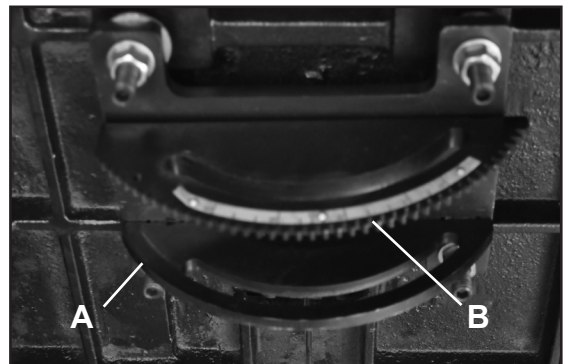
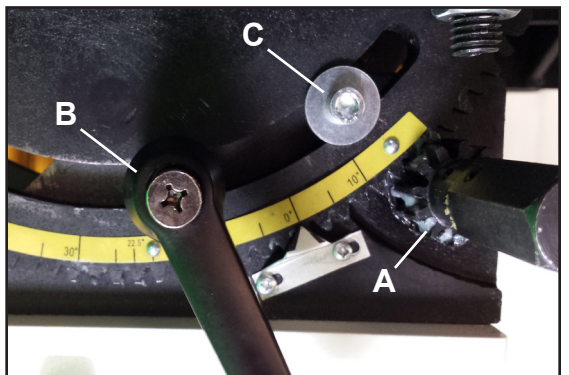

Figure 2
Figure 3
With the guide shaft, table locking hardware and blade removed carefully lift the table (team lift) and lower the upper trunnion (installed at factory) (A-Fig.2) onto the lower trunnion. Ensure that the gear teeth on the upper trunnion (B-Fig.2) engage the gear on the lower trunnion (A-Fig.3).
**NOTE:** The table locking handle (B-Fig.3) is to be installed on the right side of the upper trunnion in the lower hole below the guide shaft position (C-Fig.3)